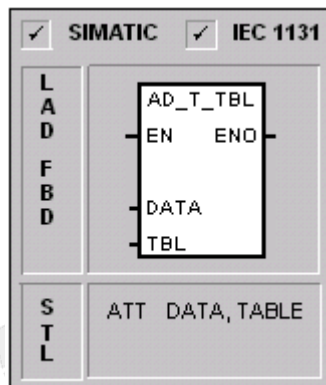

Fig. 11-1 AD\_T\_TBL instruction
The AD\_T\_TBL instruction shown in Fig. 11-1 adds word values (DATA) to a table (TBL). The first value of the table is the maximum table length (TL). The second value is the entry count (EC), which specifies the number of entries in the table. New data are added to the table after the last entry. Each time new data are added to the table, the entry count is incremented. A table can have up to 100 data entries.